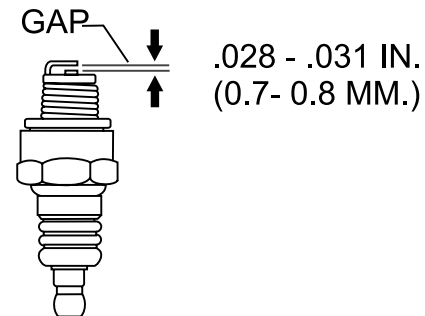

Figure 37. Spark Plug Gap
5. Measure the spark plug electrode gap (Figure 37) with a wire-type feeler gauge. If needed, adjust the gap to 0.7 - 0.8 mm (0.028 - 0.031 in), by carefully bending the side electrode.